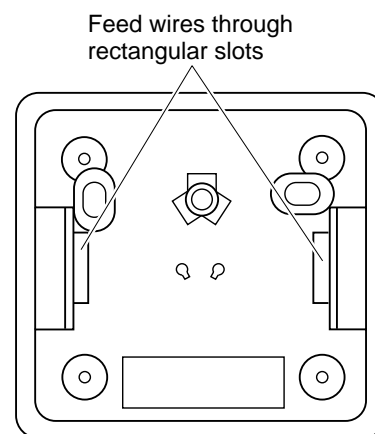

Figure 45 - Back View of Thermostat Base
6. Feed the electrical wires through the rectangular slots (from the back) on each side of the base (see Figure 45).